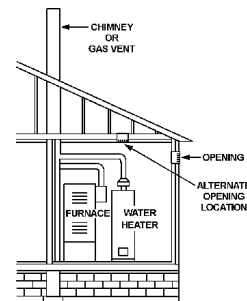

FIGURE 9A.
5. Alternatively a single permanent opening may be used when communicating directly with the outdoors, or with spaces that freely communicate with the outdoors. The opening shall have a minimum free area of 1 square inch per 3,000 BTU per hour (8.3 cm²/kW) of total input rating of all equipment in enclosure. See Figure 9A.